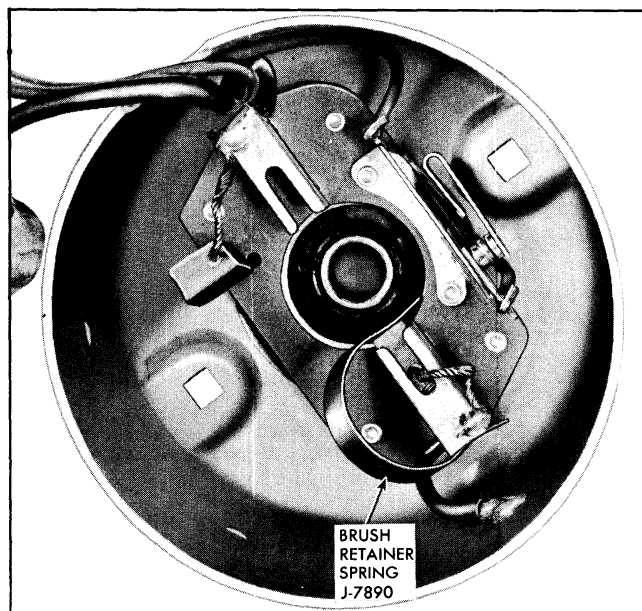

Fig. 11-103 Retainer Holding Brush in Place
6. Install brush retainer spring (Fig. 11-103) over entire length of guide to retain brush.